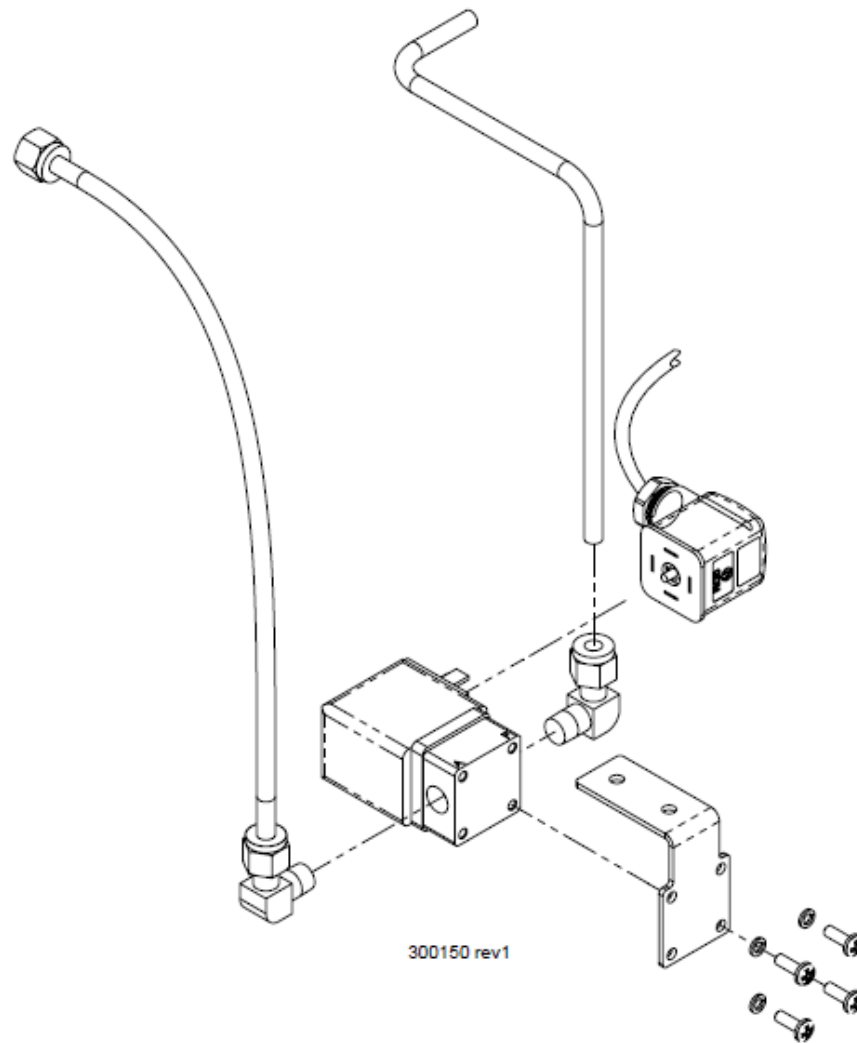

Figure 31 – Solenoid Valve Fuel System Connections
10. On the new solenoid valve, loosen the 5/8" retaining nut with a wrench and orient the head as shown in Figure 31. Take note of the P and A markings on the valve body. The P port must be on the fuel system side of the valve, and the A port must be on the burner side.